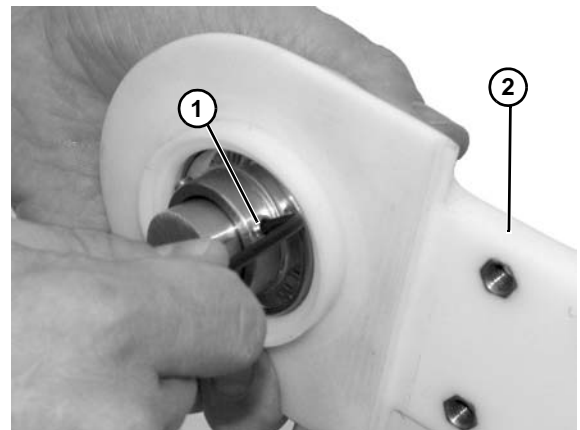

Figure 45
14. Loosen set screws (Figure 45, item 1) and remove tail plate (Figure 45, item 2).